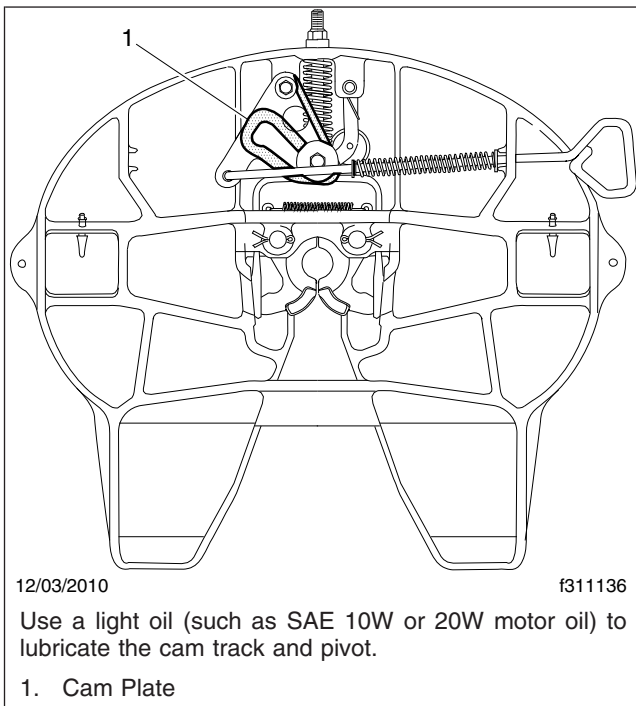

Fig. 11, Holland FW35 Fifth Wheel, Oil Lubrication
2. Using a light oil (such as SAE 10W or 20W motor oil), lubricate the cam track and pivot. See Fig. 11.